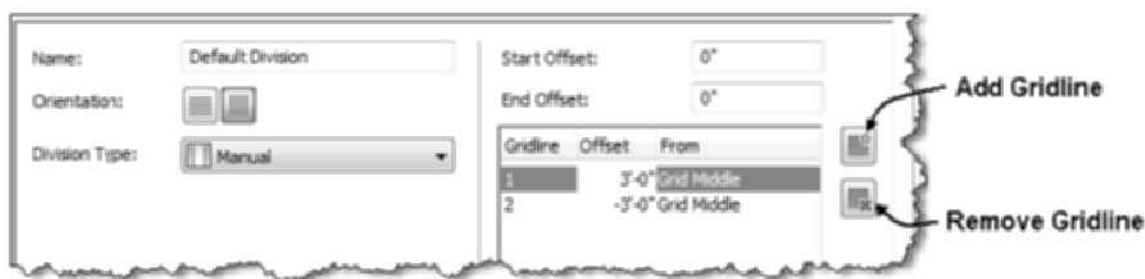

FIGURE 6.10 Specifying a Manual division type
9. Choose the Division Type flyout to specify Manual. Click Add Gridline as shown in Figure 6.10 to create gridline. Edit the Offset value to **3'-0" [900]** and From to **Grid Middle** as shown in Figure 6.10. Click Add Gridline, and edit the Offset value to -3'-0" [-900] and From to Grid Middle. Choose the Viewer button in the lower-left corner to view the manual door/window assembly.